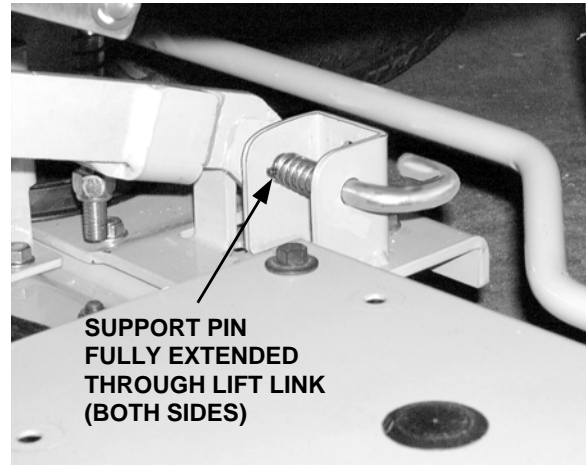

Figure 15
10. Maneuver each side of the deck slightly to align the support pins with the holes of the lift links. The spring tension will push the pins inward and, if aligned, through the hole in each implement lift link (See Figure 15).